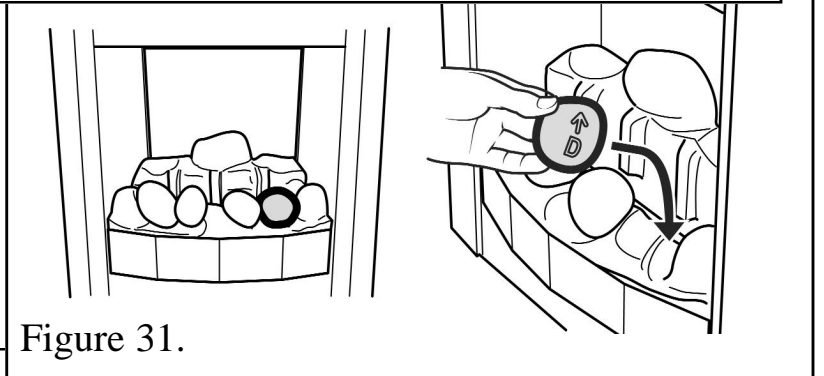

Figure 31.
7. Hold pebble 'D' upright with the arrow pointing to the top. Place pebble "D" on top of the base front pebble. It should rest against the moulded pebble to its right (See figure 31).